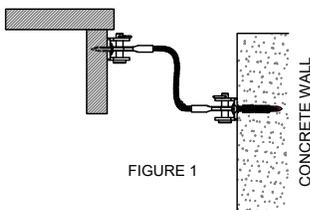
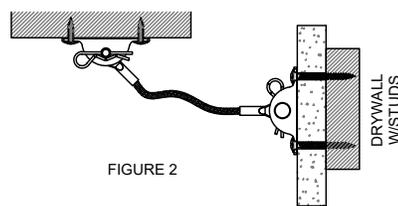
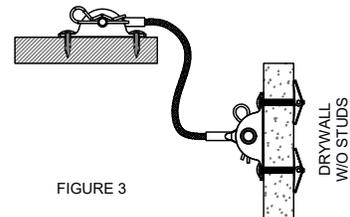

FIGURE 1
FIGURE 2
FIGURE 3
1. Attach mounting brackets (A) near the middle-top back edge of the furniture piece by inserting the shorter screws (E).
3. Attach the second brackets to stud wall by inserting the longer screw (F) (see **FIGURE 1 & FIGURE 2**) or toggle bolt (G) through the drywall (see **FIGURE 3**).
5. Insert the clevis pin (B) through holes on brackets and hole on steel aircraft cable (C). Use hair pin (D) to go through small hole on clevis pin (B) to lock it.
6. Repeat above step to attach the end of aircraft cable (C) to the bracket on the wall.
1. Attach to top back frame of cabinet, ideal installation for dressers and chests. See detail in **FIGURE 1**.
- **CONCRETE:** Drill pilot hole on and then insert plastic screwdriver to attach the metal bracket to the wall with screws. See **FIGURE 1**.
2. Attach to underside of top when there is no back rail, drill through plywood back panel. Ideal installation for file cabinets and console table. See detail in **FIGURE 2**.
- **DRYWALL WITH STUDS:** Use screws to affix to studs, and use hollow wall anchors and screws to affix to drywall. See **FIGURE 2**.
3. Attach to top of tall furniture such as curio cabinets. See detail in **FIGURE 3**.
- **DRYWALL WITHOUT STUDS:** Use toggle bolt and screws to affix to drywall. See **FIGURE 3**.